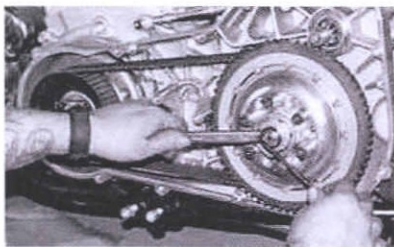

Fig.11 Install clutch adjusting rod supplied with kit 1986-up. and adjust clutch.
11. Clutch screw adjustment should be approximately 1/4 turn loose from lightly seated. (Note when clutch is hot the adjustment screw should not be seated). Tighten rod nut when adjustment is complete. (We supply a clutch adjusting rod and nut for all models 1990-up only). (Fig. 11. 11a)